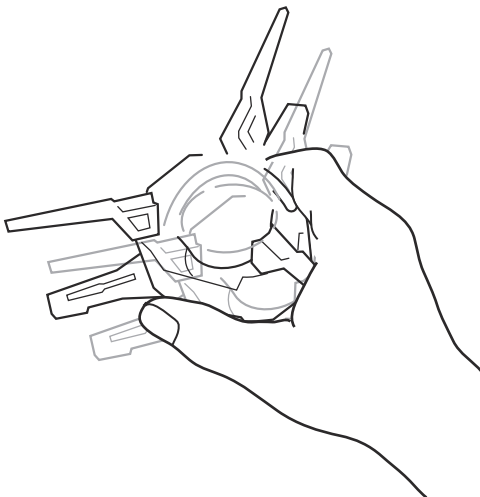

Figure 14-16. Shake the Stove.
- Shake the stove up and down (see fig. 14-16).